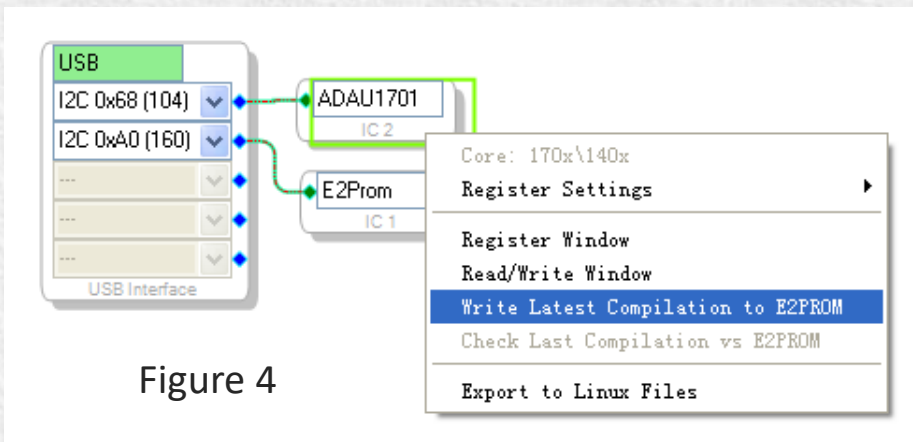
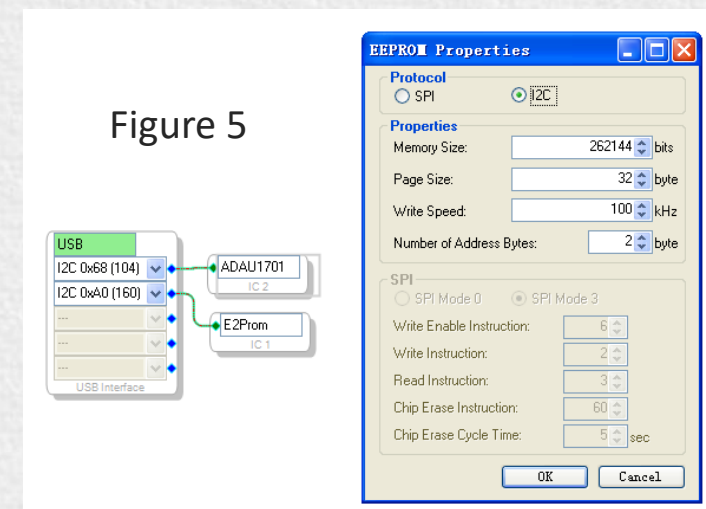

Figure 4
Figure 5
3. Make sure the SW of ICP1 is at ① (PROGRAM) and the SW1 of APM2 is at ① (RUN), and right-click the “ADAU1701” and select “Write Latest Compilation to E2PBOM” to download the program (see figure 4), then you will see a window, choose the “I2C” on the right and click “OK” (see figure 5).